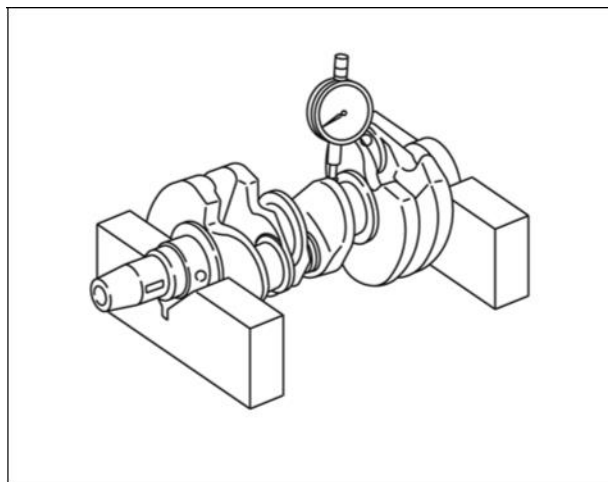

Figure 2
4. Check the crankshaft for run-out at #3 main bearing journal (Figure 2).